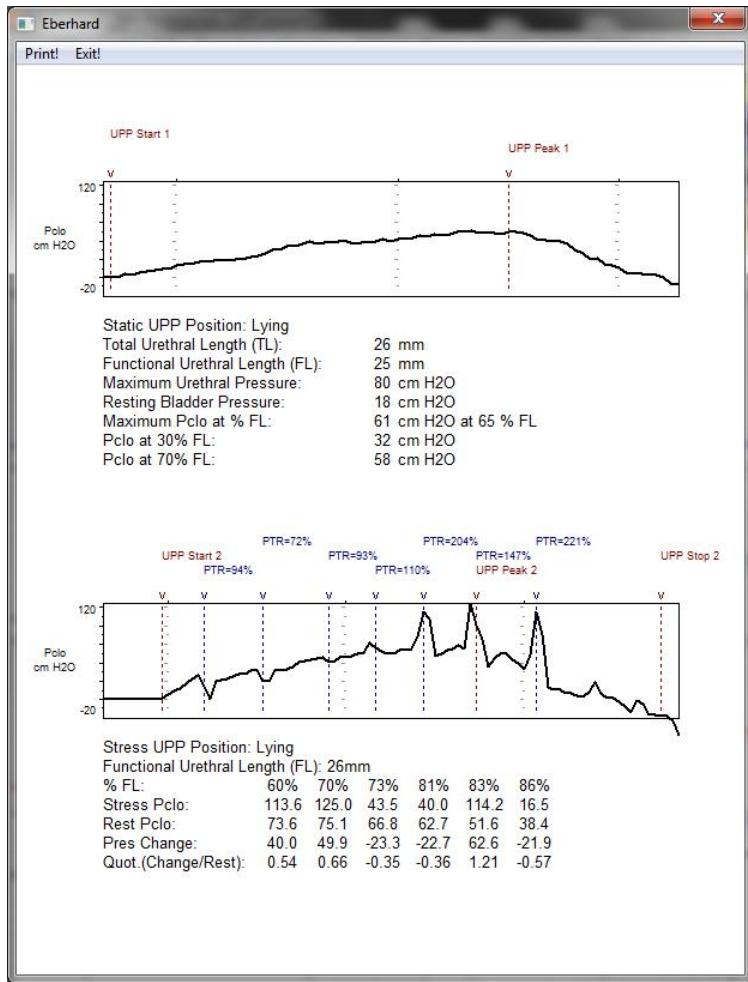

Figure 135: Eberhard Summary
- From the *Eberhard Curve Options* window click **OK**, **Info > UPP > Eberhardt Curve > OK**. The **Eberhard** window will open to display the curves along with *Total Urethral Length*, *Pressures*, *Functional Urethral Length*, and *change information* (Figure 135).